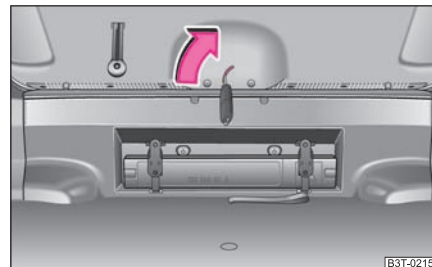

Fig. 33 Emergency unlocking of the boot lid
- Guide the key into the slot in the trip panel as far as the stop ⇒ fig. 33.